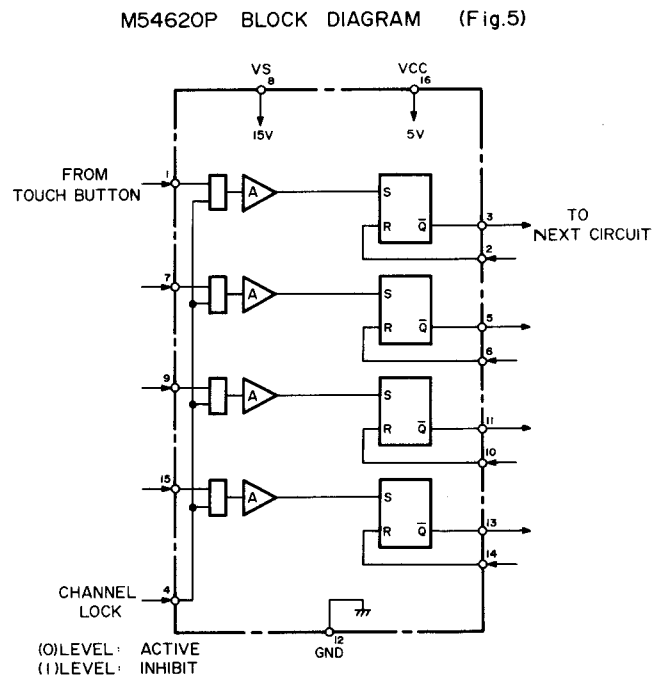

Figure 39-2
5. 2. 5 4-Channel Separate Type (M54620P) (Refer to Figure 39-2)